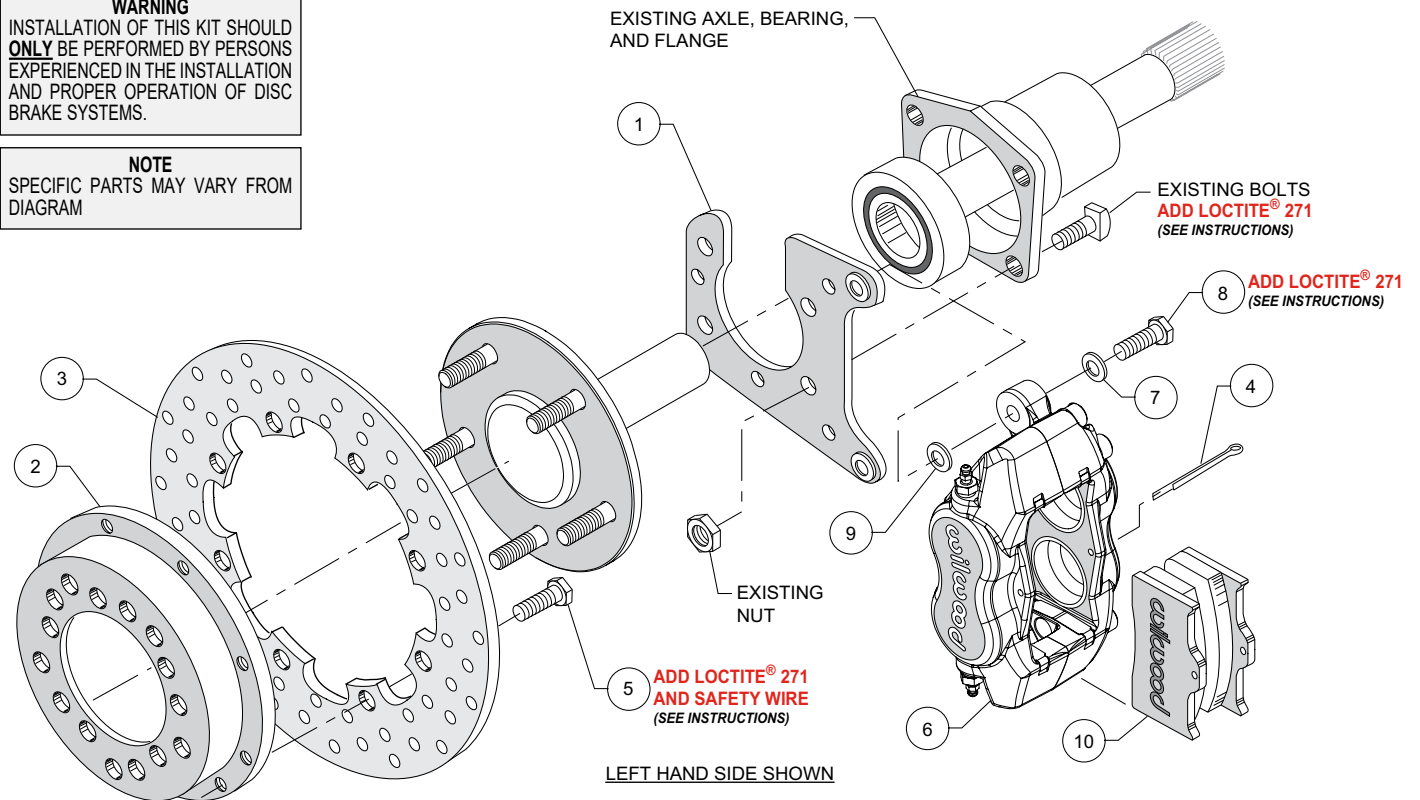
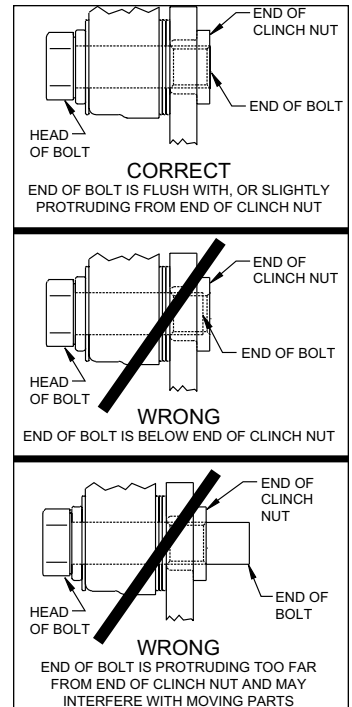

Figure 1. Typical Installation Configuration
Figure 5. Clinch Nut Engagement Diagram
**NOTE:** Numbers in parenthesis refer to the parts list and Figure 1 on the preceding pages.
**CAUTION:** All mounting bolts must fully engage clinch nuts. Be sure to check that all bolts are either flush or protruding through flanged side of clinch nut after shimming, Figure 5.
•Orient the caliper mount bracket (1) with the slot for the axle pointing upward, as shown in Figure 1 and Photo 1. Install using existing Original Equipment Manufacturer (OEM) bolts and washers. Temporarily tighten the mounting bolts. Ensure that the flanged heads of the clinch nuts in the bracket are facing outboard, Photo 1. **NOTE:** The bracket must fit squarely against the axle housing flange. Inspect for interference from casting irregularities, machining ridges, burrs, etc. Remove bolts one at a time, apply red *Loctite*® 271 to threads and torque nuts to manufacturer's specifications.
•Orient the rotor (3) and the hat (2) as shown in Figure 1 and Photo 2. Attach rotor to hat using bolts (5). Apply red *Loctite*® 271 to the bolt threads and torque to 25 ft-lb using a criss-cross pattern. Safety wire bolts using standard 0.032 inch diameter stainless steel safety wire as shown in Figure 4. Refer to Wilwood's data sheet DS-386 (available at [www.wilwood.com/Pdf/DataSheets/ds386.pdf](http://www.wilwood.com/Pdf/DataSheets/ds386.pdf)) for complete safety wire installation instructions.
•Align the correct hole pattern in the rotor/hat with the stud pattern on the axle flange and slide into place, Figure 1 and Photo 3. **NOTE:** The rotor/hat must fit flush against the axle flange or excessive rotor run out may result. Install three lug nuts (finger tight) to keep the rotor/hat assembly in place while continuing with the installation. **NOTE:** Some OEM and after market axles come with stud sizes larger than 0.50" diameter. Verify stud size and have a qualified machine shop drill the bolt circle of the hat/rotor to the correct stud size, if necessary.
•**NOTE:** Please reference the caution statement at the beginning of the assembly instructions. Mount the caliper (6) onto the caliper mounting bracket (1) using bolts (8) and washers (7), as shown in Figure 1. Initially place one .032" thick shim (9) on each bolt between the caliper and the bracket, Photo 4. Temporarily tighten the mounting bolts and view the rotor (3) through the top opening of the caliper. The rotor should be centered in the caliper, Photo 5. If not, adjust by adding or subtracting shims (9) between the bracket and the caliper. Always use the same amount of shims on each of the two mounting bolts. **NOTE:** The end of each bolt must be flush with or slightly protruding from the head of the clinch nut, as shown in Figure 5. If necessary place spare shims between washer (7) and caliper mounting ear to achieve the proper clinch nut engagement. Once the caliper alignment and clinch nut engagement are correct, remove the bolts one at a time, apply red *Loctite*® 271 to bolt threads, and torque to 40 ft-lb. Caliper mount bolts may be safety wired for additional security.